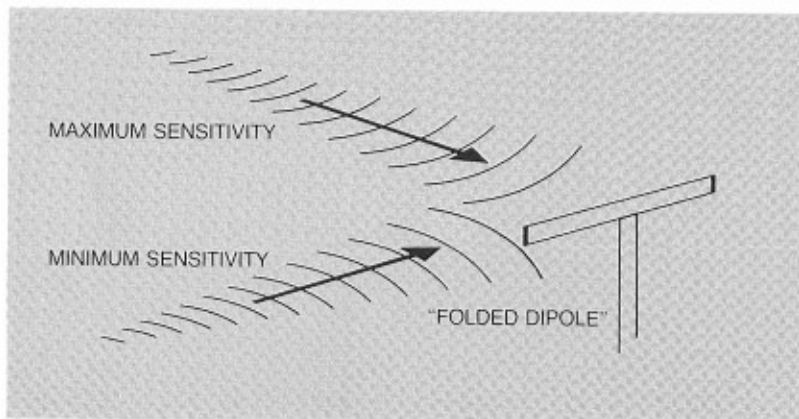

Figure 10
1. Try altering the height and orientation of the folded dipole antenna, remembering that the strongest reception usually occurs when the crossbar of the "T" is broadside to the direction of the FM signal (See Figure 10).